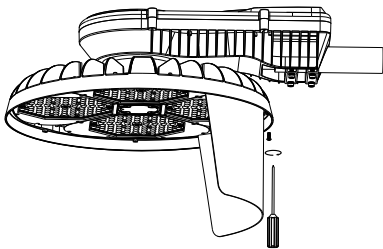

Figure 10
- ◆ Fix the light barrier to the luminaire with a screwdriver as required, Figure 10